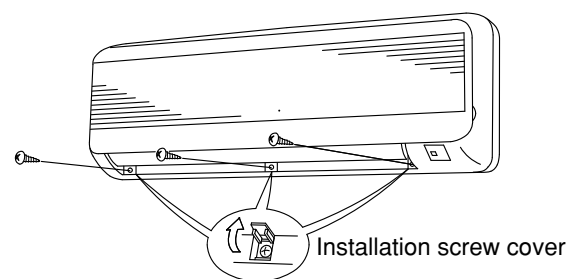

Fig. 3-54
- (3) Adjust the flap so that it is horizontal. (Fig. 3-54)
- (4) Open the installation screw covers below the grille (3 locations). (Fig. 3-54)
- (5) Remove the screws. (Fig. 3-54)